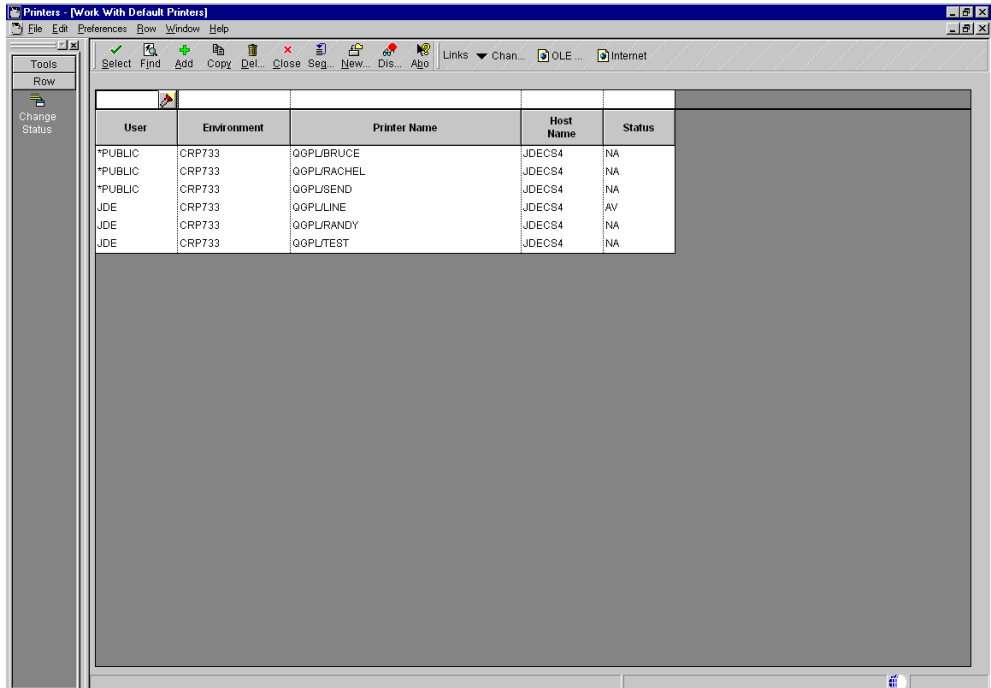

Figure 192. Wok with Default Printers
9. You should be back to the main printer setup window now, and you can now set the just defined printer to be a default printer for the appropriate user/group. Click the **Define Default Printer** button (the printer picture that is just the printer). See Figure 192 on page 402.
12. This takes you back to the display shown in Figure 192. Click **Find** to see your newly added default printer.